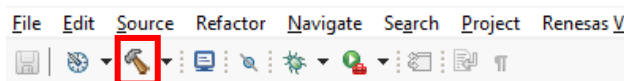

Figure 20. Build Button
2. Build the project by clicking the **Build** button (see Figure 20).